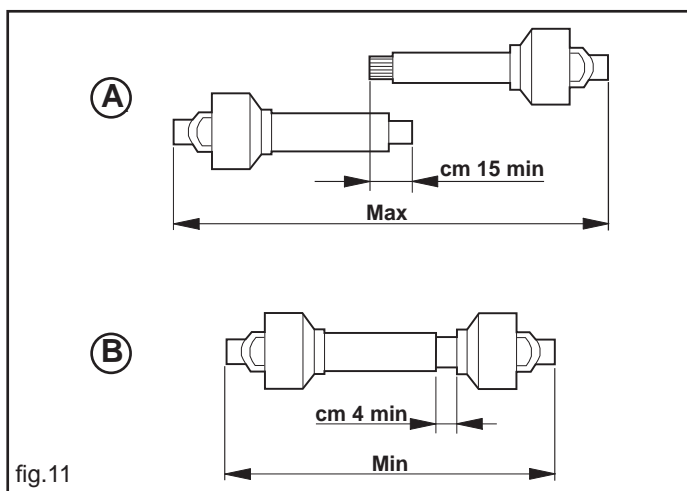

fig.11
- When the Cardan shaft is with drawn to the end of its stroke, the two pipes should overlap by at least 15 cm (A Fig. 11). When it is inserted all the way, the minimum admissible play is 4 cm (B Fig. 11).